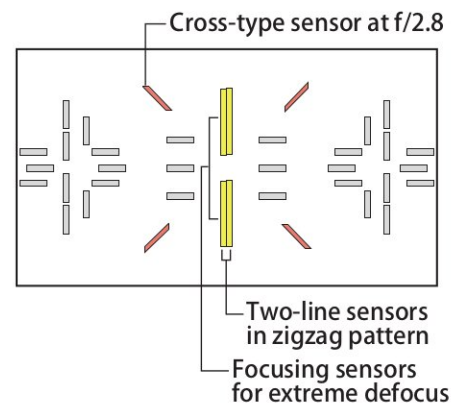

Fig. 011 Sensor configuration
(2) Improved AF detection precision (Fig. 011)
By using the entire two-line focusing sensors described above, a subject in extreme defocus can be detected and AF control is quick and easy. (Fig. 011)